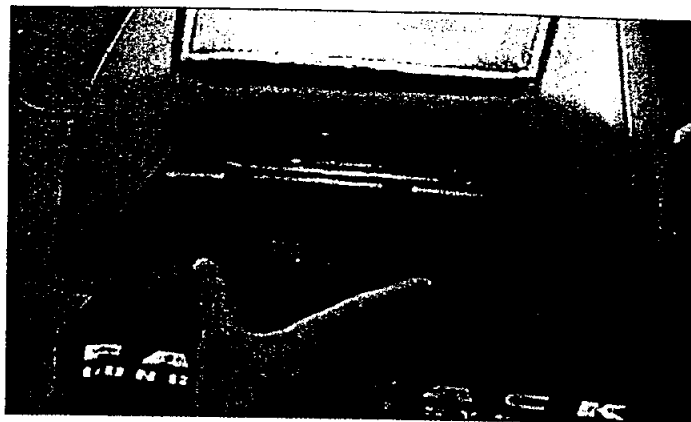

Figure 9
**NOTE: EVERY TAILLIGHT LENS HAS REFLECTORS USUALLY BUILT INTO EACH SIDE OF THE LENS. NEVER MOUNT THE LED BEHIND THE REFLECTORIZED AREAS OF THE TAILLIGHT LENS. (Fig.9)**